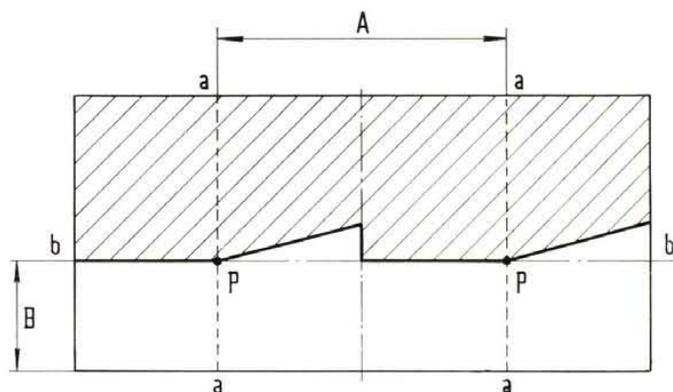

Fig. 495 - Headlight aiming diagram.
Draw a pair of vertical lines a-a on the screen (fig. 495). These lines should be equally spaced from the perpendicular to the car longitudinal axis and  $38\frac{7}{32}$ " (971 mm) apart (A), which corresponds to the headlight center-to-center distance.
— the horizontal separation line between the lit and unlit areas is on line b-b (fig. 495);
— the upward slanting (some  $15^\circ$ ) separation lines start from the meeting points *P* of verticals *a-a* with the horizontal line *b-b* (fig. 495) or just outside of them.
A maximum outward shift of the meeting point *P* (fig. 495) of  $1^\circ 30'$  ( $= 5\frac{1}{8}'' - 130 \text{ mm}$ ), is permitted.